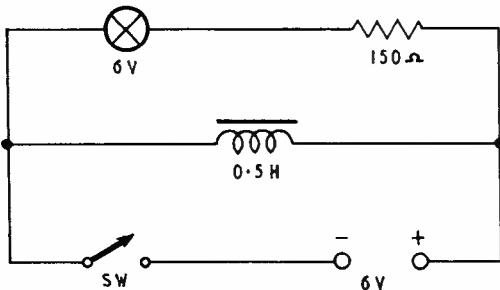

FIG. 2.
- STEP 1. Connect the circuit as in Fig. 2.